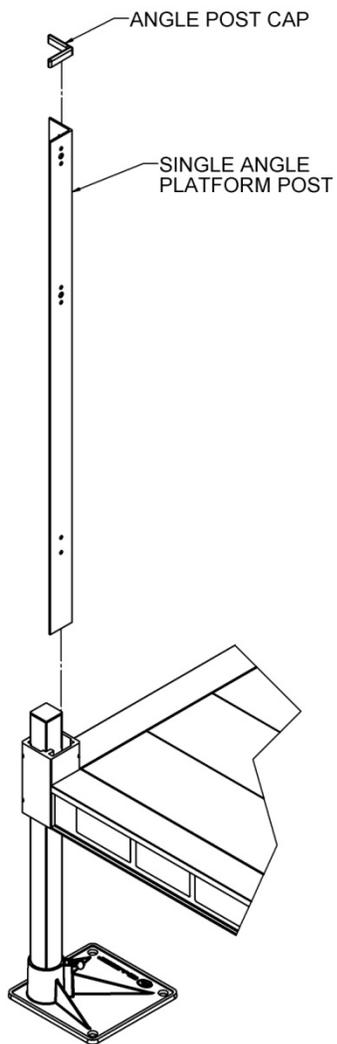

FIG. 6.7
- 6.2.1. If needed, drop a single angle post into corner pocket on platform and tighten two set screws with a 3/16” Allen wrench (refer to FIG. 4.4 for post set screw locations). Make sure the two sets of holes which are closest together are on top and the bottom of the post aligns with the bottom of the corner pocket as shown (FIG. 6.7).